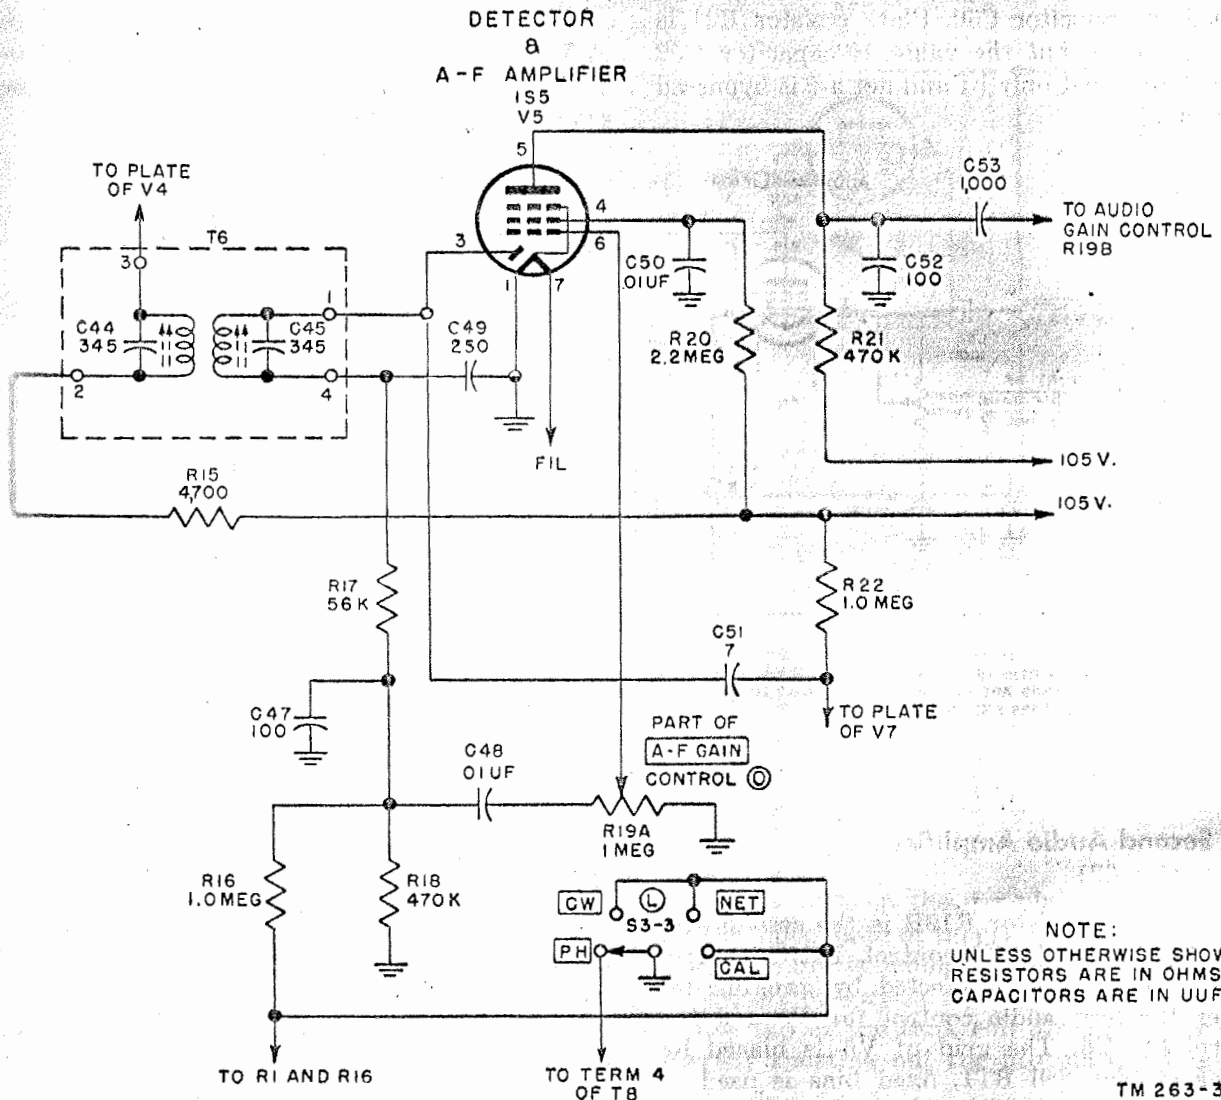

Figure 61. Detector and first audio amplifier, simplified schematic.
26. Detector and First Audio Amplifier (fig. 61)